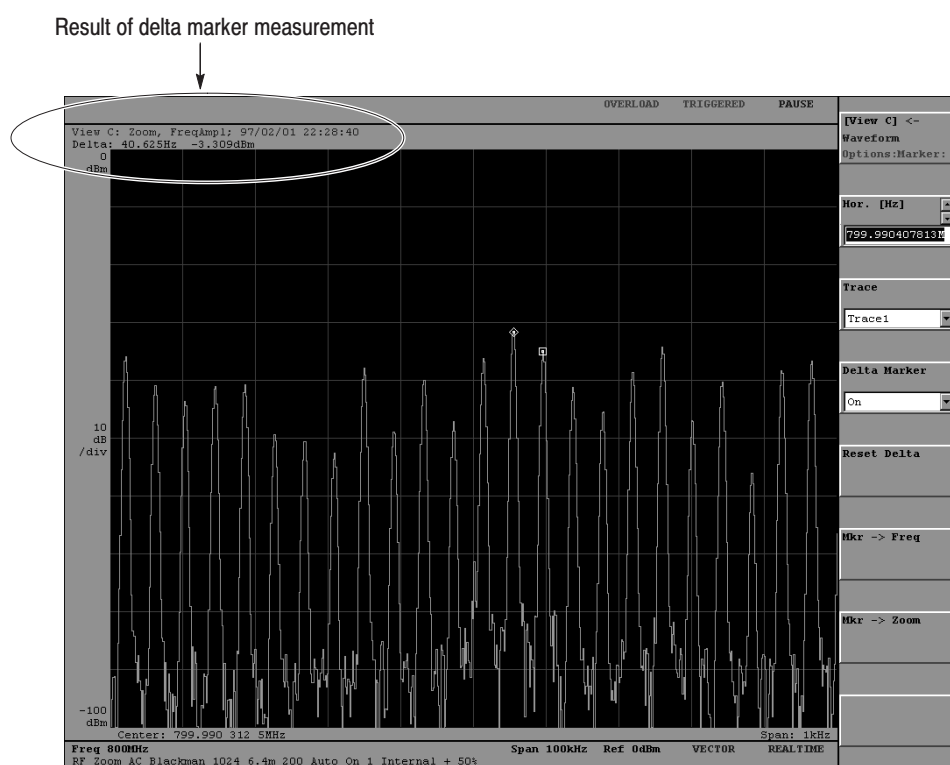

Figure 2–43: Example measurement using the delta markers
At the top left corner, the view shows the differences in frequency and power. These values are the result of the delta marker measurement. See Figure 2–43.
The waveform as shown in Figure 2–44 is observed.
Create the trigger mask pattern while observing the waveform in View A in Figure 2–44. The trigger should be generated when the signal generator modulation is turned on. For this purpose, a trigger area is created on each side of the peak spectrum. This setting generates the trigger when the spectrum enters either of the areas.
6. Create a trigger area to the left of the peak spectrum (see Figure 2–45).